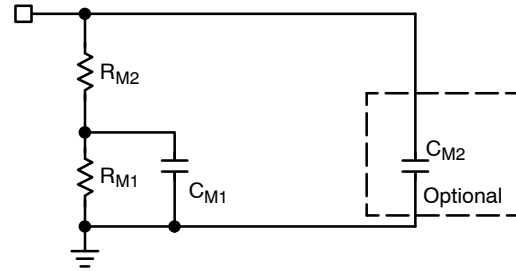

Figure 6. Modified  $V_M$  Pin Structure
- Modify the skip mode operation, which can help reducing the audible noise. Refer to Figure 6, the modified  $V_M$  pin structure. By inserting the  $R_{M2}$ , part of the ripple on the inductor current join the modulation